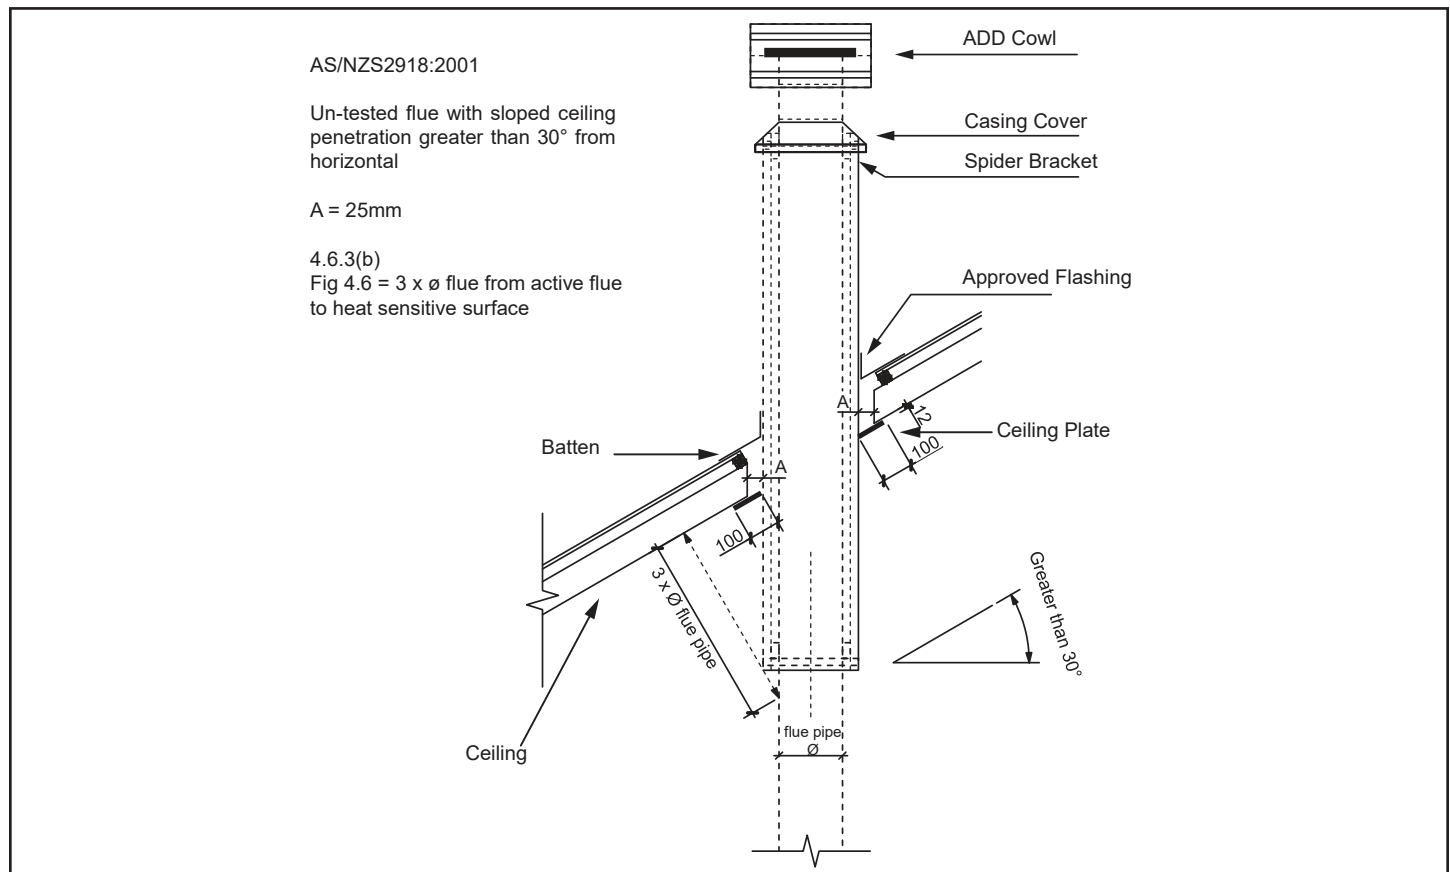

Figure 15.2
- Refer to **AS/NZS 2918:2001 4.9.1**, see **Figure 15.2** on **page 15**.